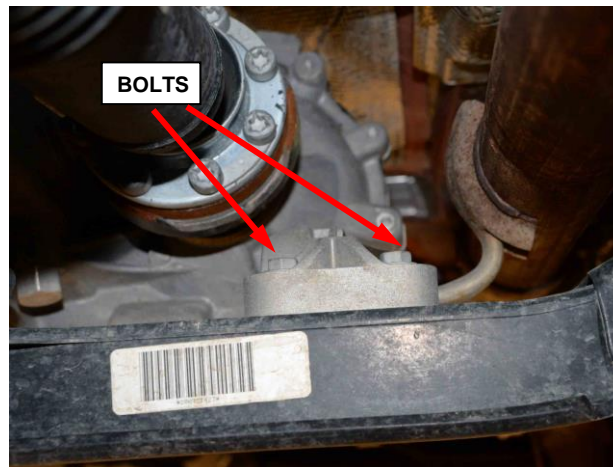

Figure 10 – Exhaust Hanger
22. Remove the bolts and separate the exhaust hanger from the crossmember, if equipped (Figure 10).
12. Install the bolts attaching the exhaust hanger to the crossmember, if equipped and tighten to 22 N·m (16 ft. lbs.) (Figure 10).